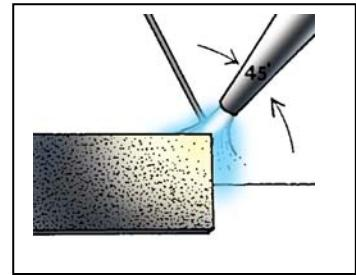

Figure 4
22. At the same time, use the other hand to bring the welding rod close to the flame for preheating. The end of the rod should be approximately $\frac{3}{8}$ in. from the flame and $\frac{1}{16}$ to $\frac{1}{8}$ in. from the pool surface. The rod is held at an angle to the work, usually about 45 degrees. Refer to Figure 4.